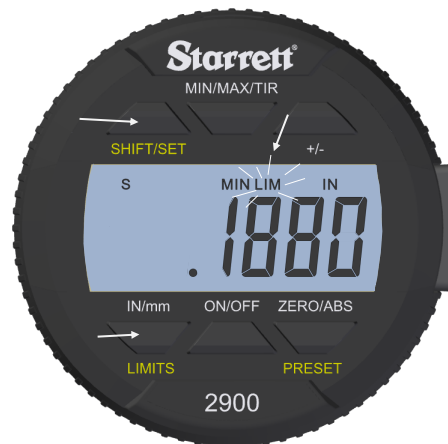

Fig.6B
3. Press the **LIMITS** button. The MIN LIMIT icon (MIN LIM) will appear in the upper middle of the display Fig.6B.